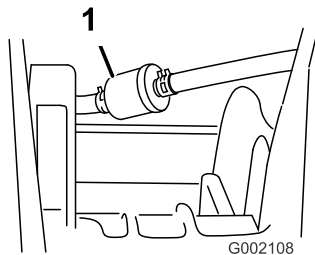

Figure 37
3. Remove the clamps securing the fuel filter to the fuel lines (Figure 37), as follows: